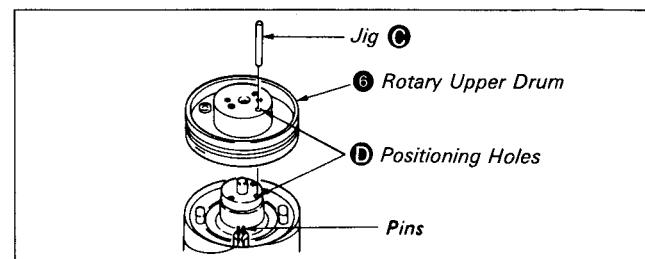

Fig. 7-47.
- 2) Insert Jig **C** in the positioning hole **D** so that the holes of the rotary upper drum **E** and flange coincide. Lightly insert the rotary upper drum in the drum shaft while aligning their positions. (See Fig. 7-47.) (Check that pins are projecting above the holes on the printed circuit board of the rotary upper drum. When the pins are caught, correct using tweezers, etc.)